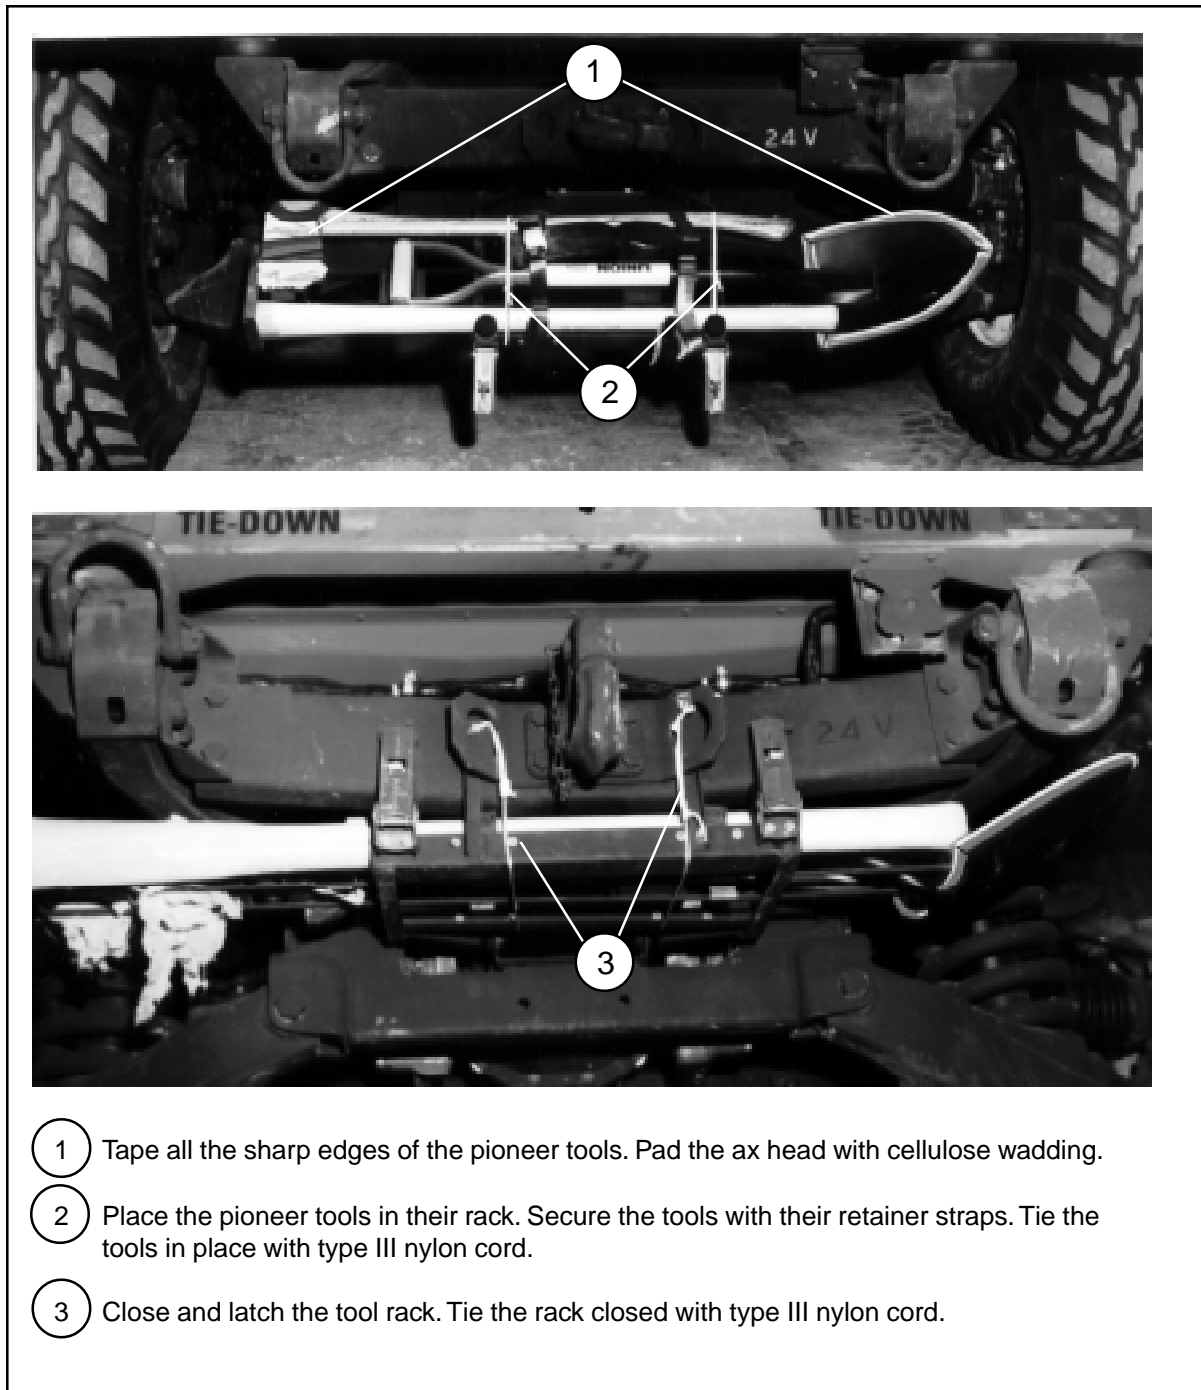

Figure 2-12. Pioneer Tool Kit Secured
•Prepare and secure the pioneer tool kit as shown in Figure 2-12.